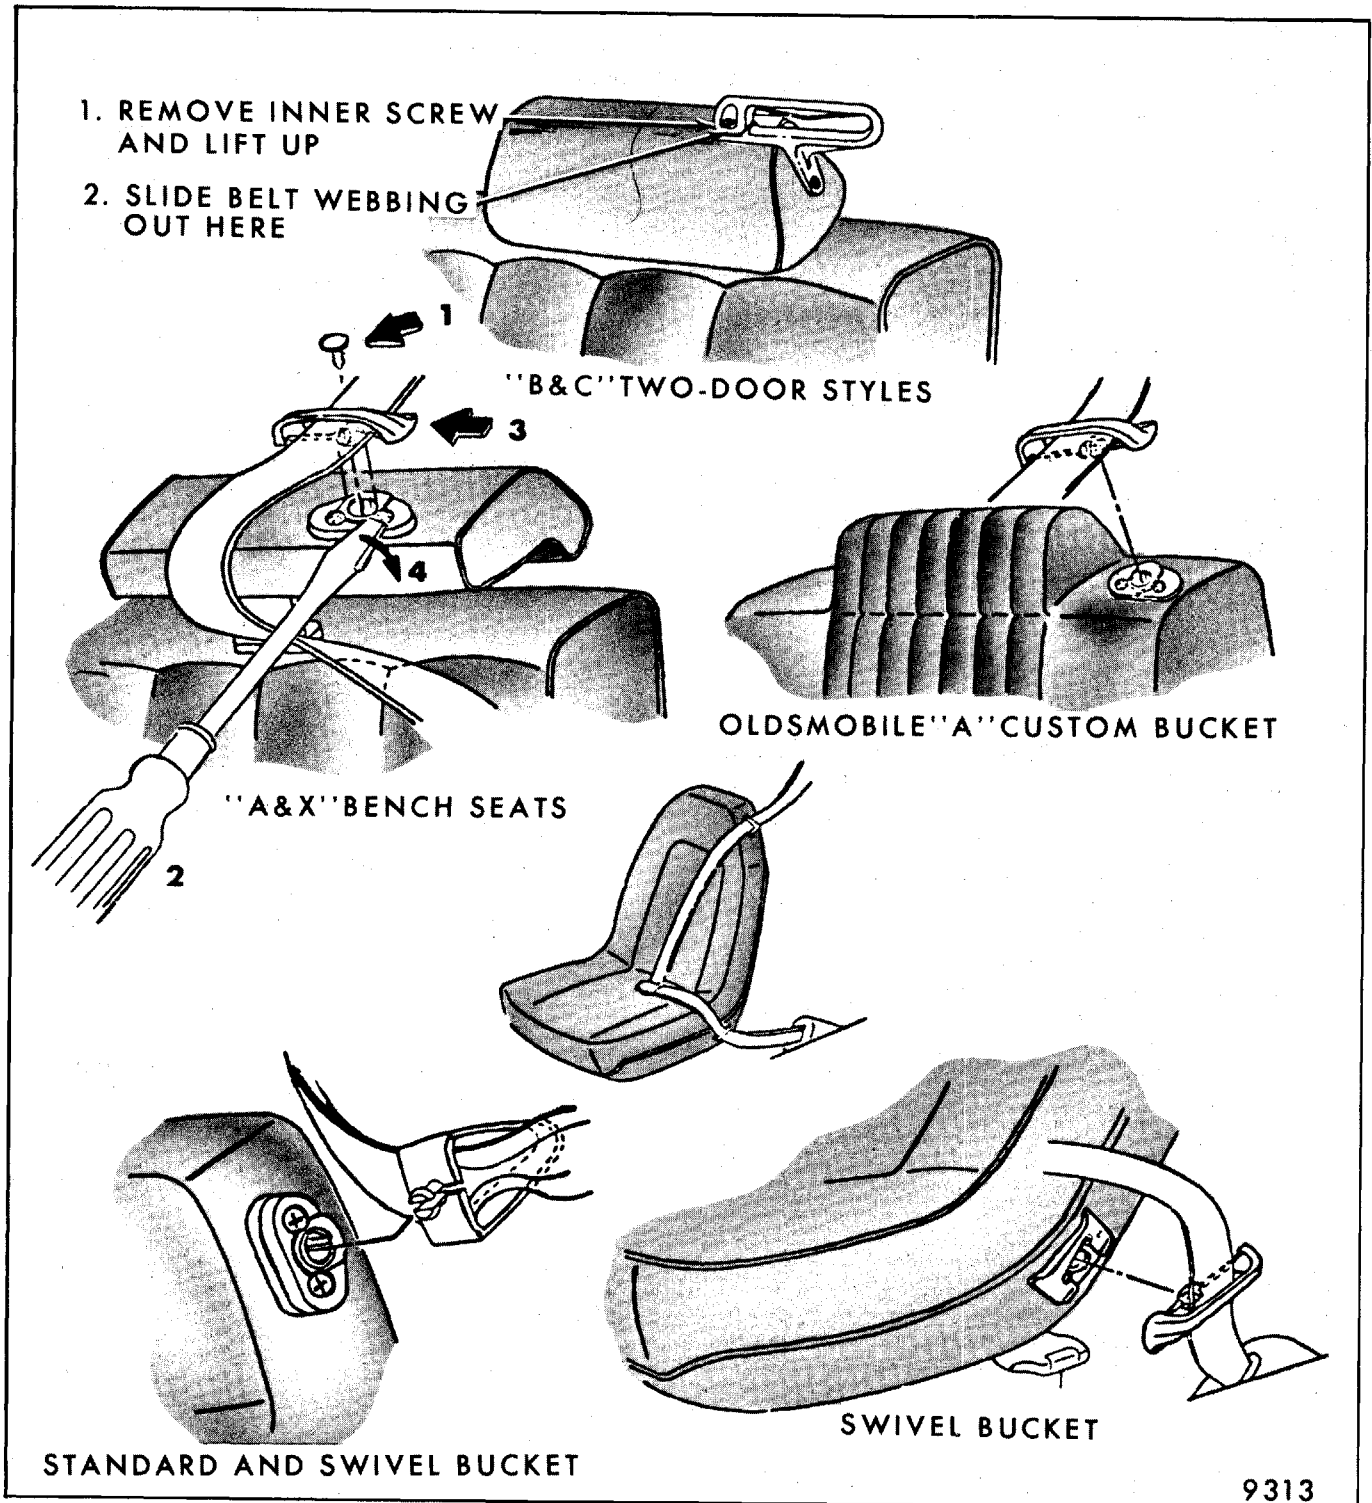

Fig. 9-10-Shoulder Belt Guide Loop - Removal
1. Using Weatherstrip Removal Tool J-21104 or equivalent, carefully pry out plastic guide fastener where present from center of guide loop (see "1" in Fig. 9-10).
- a. From the front side of the guide escutcheon carefully insert a flat-bladed screwdriver between guide and escutcheon on one side of the split in the guide as shown at "2" in Figure 9-10.
- b. Push hard on side of guide where screwdriver is inserted as indicated at "3" in Figure 9-10.
- c. Carefully turn screwdriver as indicated at "4" in Figure 9-10 to snap guide from escutcheon.
3. To install guide, position guide retaining prongs in hole in escutcheon and push on base of guide until prongs snap into installed position. Reinstall plastic guide fastener (see "1" in Fig. 9-10). If fastener was damaged during removal, install new fastener.
1. On "B and C" body two-door styles, remove 2 guide loop attaching screws (see Fig. 9-10) and remove loop.
Removal and Installation (refer to Fig. 9-10).
On "B and C" two-door styles, remove shoulder belt guide loop inner attaching screw; then carefully lift upper portion of guide loop sufficiently to slide shoulder strap webbing out of loop (Fig. 9-10).